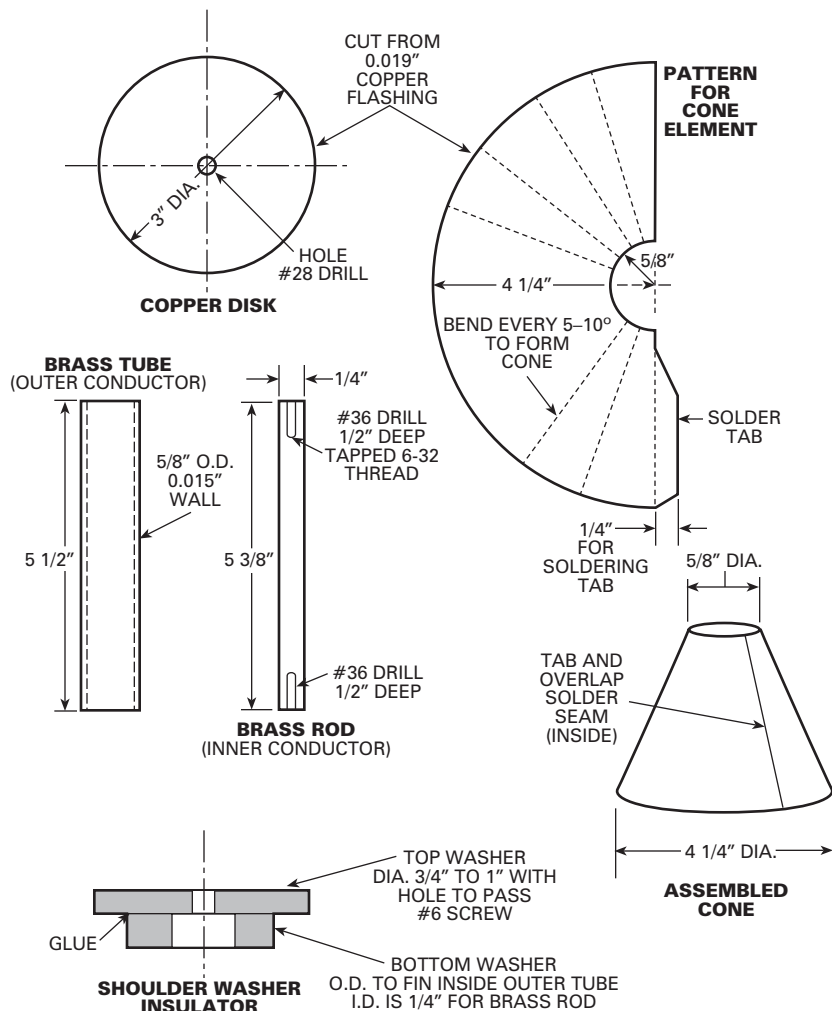

Fig. 2.—
The space created by the insulating washer (S) will be 1/5 Of the inside diameter of the brass tube (Fig. 2) or about 1/8 inch (thickness is not critical).
The disc and cone were cut from 0.019-gauge copper flashing stock (Fig. 2) purchased from a local plumbing supply house. Since the angle selected is 30 degrees, a half-circle pattern is needed to form the cone. Cut the cone and disc according to pattern. A little overlap tab, as shown in Fig. 2, allows for soldering after the cone is formed. Use shears and wear heavy gloves as copper tends to cut flesh with sharp razor-like edges. File all edges smooth.
Make a shoulder-washer insulator as shown in Fig. 2 from two plastic washers. The top larger washer should be 3/4-inch diameter by 1/8-inch thick and the center hole should be large enough to pass a 6-32 screw (#28 drill hole), but not larger than 3/16 inch. The bottom washer should be press fit into the brass tube whose inside diameter is 19/32 inch. The center hole should be 1/4-inch diameter to pass the 1/4-inch brass rod. Glue the washers together to form a shoulder washer. Now trial fit the entire discone assembly together. Trim the length of the center conductor so the top of the shoulder washer rests on the end of the brass tube. When the parts fit properly, you are ready to solder. Clean the brass rod and the rear of connector flange with fine steel wool. The surfaces should be shiny. Using 60/40 rosin core solder, solder the untapped end of the brass rod to the type N UHF connector's center pin. Use at least a 100-watt soldering iron. Next, insert this assembly into the lower end of the 5/8-inch brass tube. Insert a 6-32 by 1/2-inch long, brass, roundhead screw through the center of the copper disc, the insulator, and into the tapped hole in the end of the brass rod. Tighten the screw enough to hold the parts together and hold them in place for soldering. Make sure the brass tube is centered on the flange of the connector. Now, solder the connector's flange to the brass tube all around the seam. Use only enough solder to do the job. Check for shorts with an ohmmeter. There should be an infinite resistance between the disc and cone, and the center terminal and flange of the type N connector. Next, check that zero resistance (short circuit) exists
- 2—Plastic faucet washers (3/4 to 1-in. dia.) with hole for #6 screw or smaller (drill and file to sizes in Fig. 2)